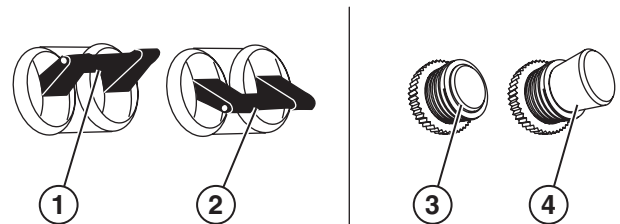

Figure 16 – Breakers
1. Make sure the circuit breakers are properly set (see *Figure 16*).